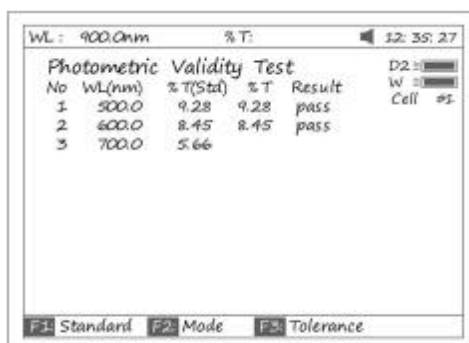

Fig 94
6. Put the sample (calibrated neutral density filter) into Main Light Path. Press **【START】** to check. The results will be displayed on the screen (Fig 94). If the discrepancy between the results and the calibrated standards is not more than the tolerance, "pass" will be displayed after the test result. Otherwise, "fail" will be displayed.